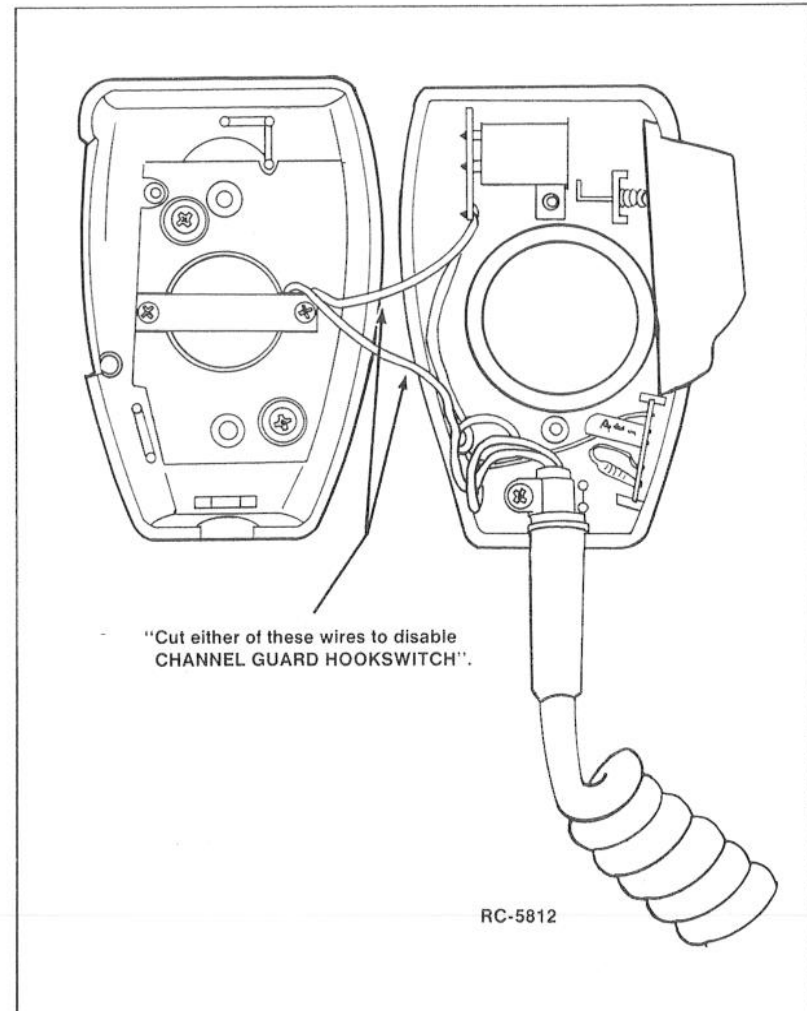

FIGURE 8 - DISABLING CHANNEL GUARD HOOKSWITCH
Placing the microphone off-hook disables Channel Guard. In scan radios, an off-hook microphone also stops scan completely (with the SCN indicator flashing) and the radio reverts to the SELECTED channel. If this feature is not desired, the hookswitch must be disabled to an on-hook condition at all times. This will allow scanning while the mic is out of the mic hanger between transmissions. The microphone has an internal magnetic reed switch which senses the magnet on the microphone hanger. The microphone must be opened, and either wire to the reed switch must be cut to disable the switch. See Figure 8.
1. Remove the two control panel retaining screws (#15 TORX) from the bottom of the Front Cap Assembly. Refer to Figure 8.